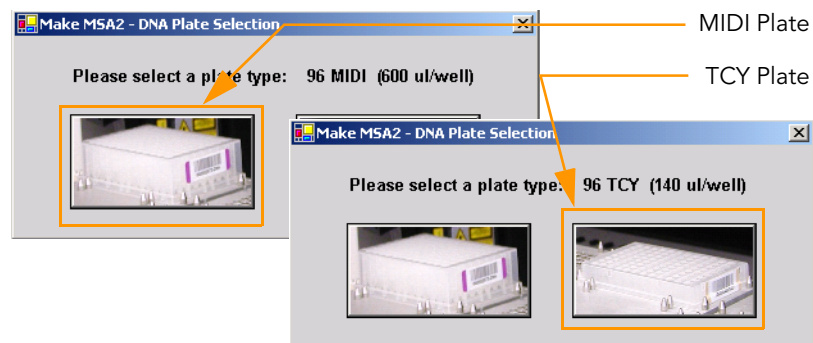

Figure 89 Selecting the DNA Plate Type
3. In the DNA Plate Selection dialog box (Figure 89), click on the plate type you wish to use. Roll the mouse pointer over each picture to see a description of the plate.